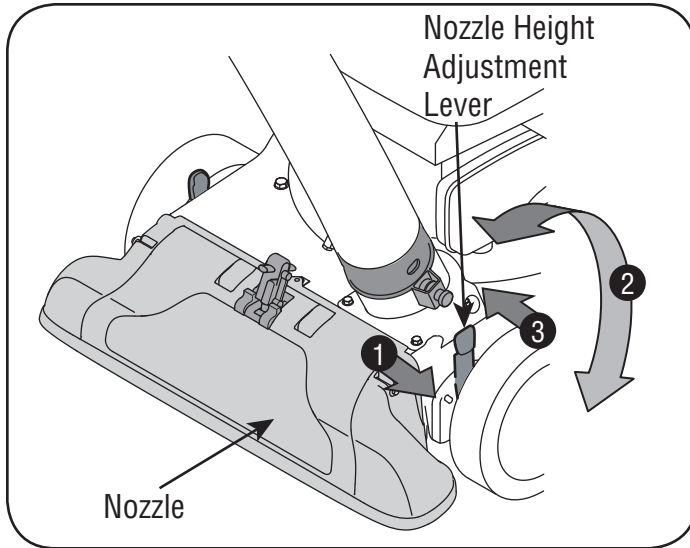

Figure 17
1. Depress nozzle height adjustment lever towards wheel. See Figure 17.